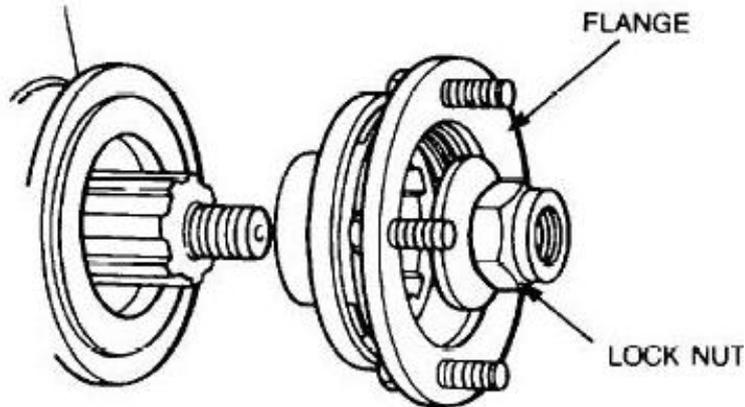

Figure 192 Installation of the Output Shaft Flange Assembly
- ii.** If removed, install the propeller shaft retaining bolts and the mud shield on the output shaft flange. Lubricate the sealing surface of the flange with clean oil and install the flange onto the output shaft (Figure 192). Install a new locknut and washer onto the output shaft, using special tool 18G1205A to prevent the flange from rotating, torque the nut to 146 to 180 N.m (108 to 132 lbf.ft).